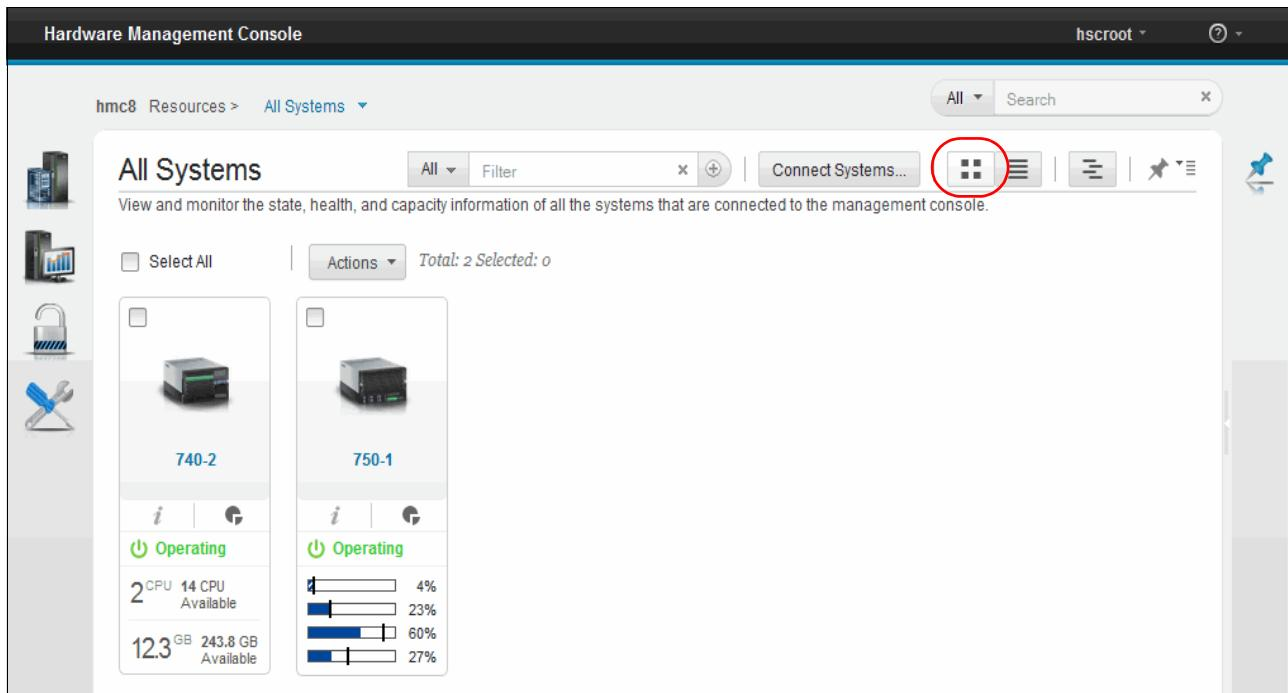

Figure 5-60 Gallery view
After the initial setup and configuration steps, when you log in to the HMC, the server management panel (Resources/All Systems) opens (Figure 5-60).
- ▶ The default *Gallery* view is shown in Figure 5-60.